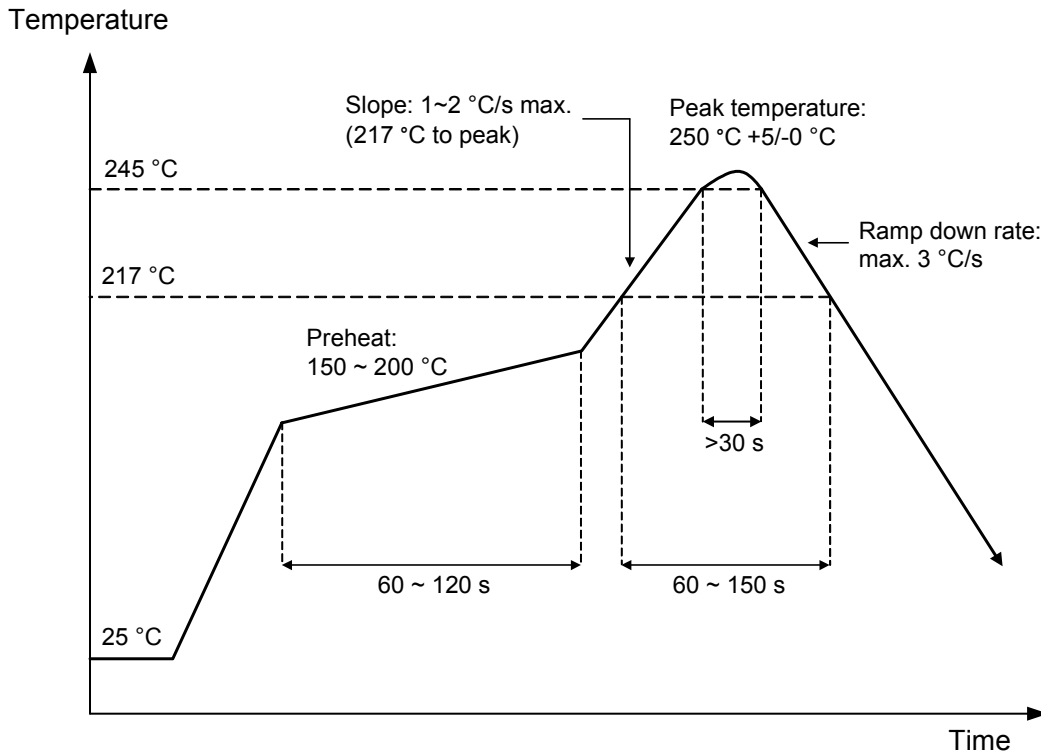

Figure 39: Reflow profile (lead-free)
- Reflow soldering profile updated (Figure 39).